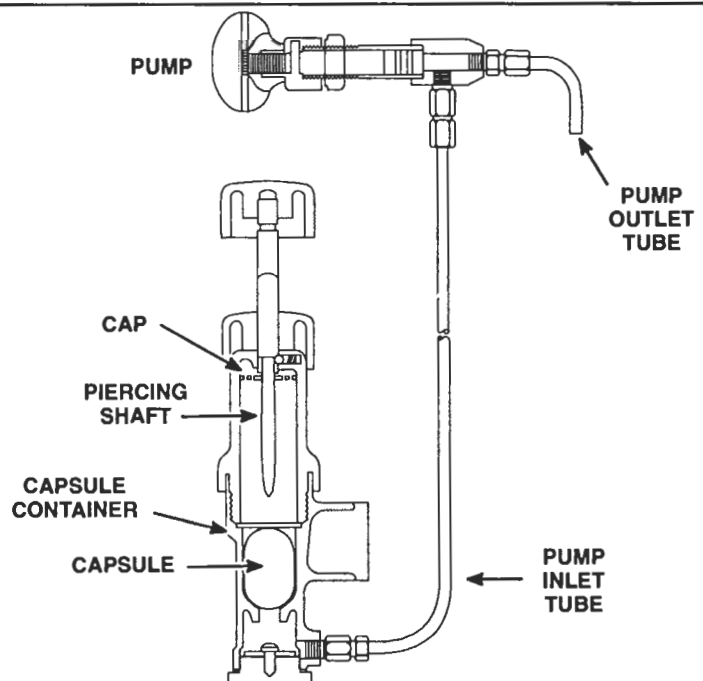

Figure 2. Fluid Starting Aid
The fluid starting aid is designed to inject a highly volatile fluid into the air intake system to assist ignition of the fuel at low ambient temperatures. It consists essentially of a pump and nozzle for injecting the fluid into the air intake and a suitable container for the fluid (Figure 2.) The fluid is contained in suitable capsules to facilitate handling.
1. Remove the cap from the capsule (Figure 2.) container. Insert a fluid capsule in the container.
The principal parts of the starting aid pump are the body, plunger and the spring-loaded ball type inlet and outlet check valves (Figure 2.) The pump body is threaded externally at one end for mounting purposes. One end of the plunger is threaded into the operating knob. Two seal rings of oil resistant material are located in grooves at the other end of the plunger. The inlet check valve, which opens on the suction stroke of the plunger and seats under pressure, is located in the side opening of the pump body. The outlet check valve, which seats under suction and opens under pressure, is installed in the end opening of the pump body. The check valves are identified by the number "1/2" stamped on the inlet valve and the number "30" on the outlet valve. An arrow indicating the direction of flow is also stamped on each check valve.